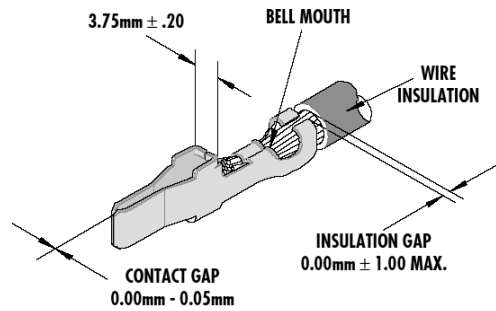

FIGURE 2-31
- c. Refer to **Figure 2-31**. Insert the female terminal 42815-0031 and the stripped wire into the crimping tool 63811-1500 and crimp them accordingly.